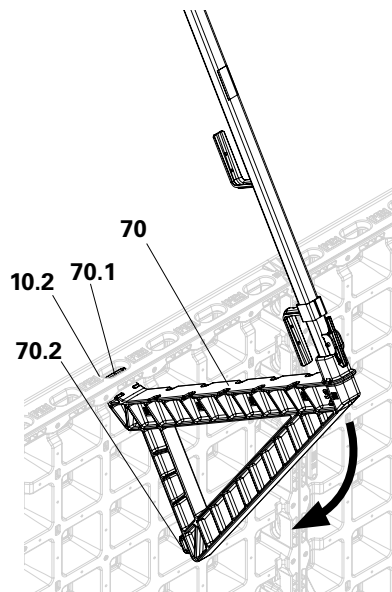
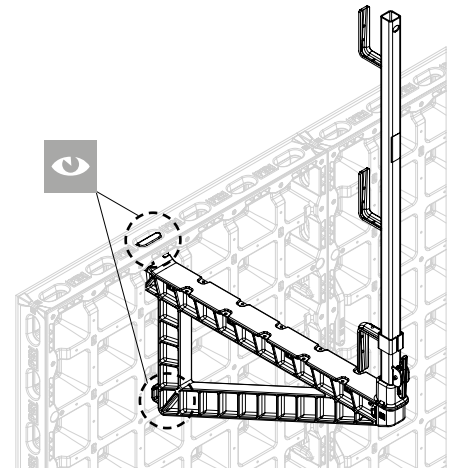

Fig. B4.02a
Fig. B4.02b
2. Insert the upper flange (70.1) of the DUO 70 scaffold bracket (70) into the connector pocket (10.2) of the DUO DP panel (10). (Fig. B4.02a)
3. Turn the DUO 70 scaffold bracket (70) downwards until the lower flange (70.2) engages in the frame of the DUO DP panel (10). (Fig. B4.02a + Fig. B4.02b)
Visual check of the suspension equipment. (Fig. B4.02b)